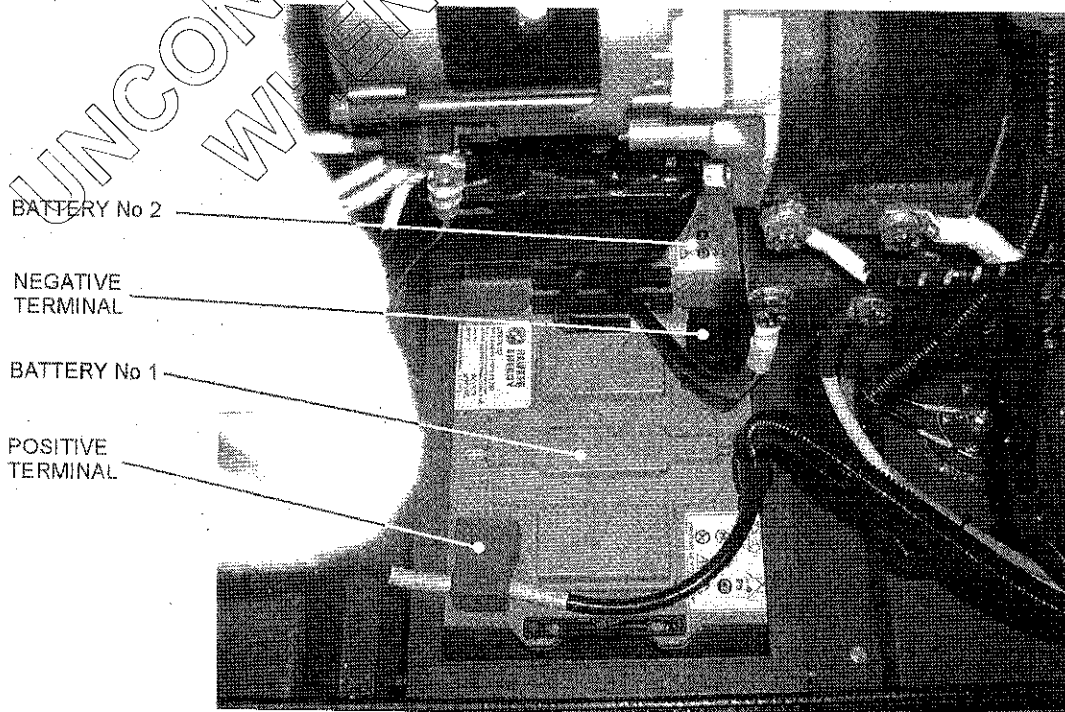
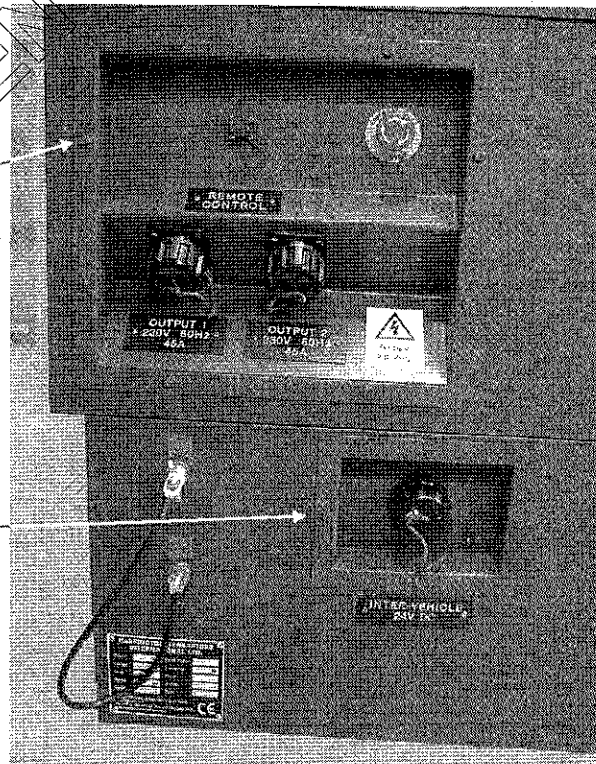

Fig 2 Battery terminals
Fig 4 Output pod and inter-vehicle connection pod
- (1) Remove the control pod as described in Para 3.
- (2) When the gland plate has been separated from the control panel, remove the conduit gland nut from conduit number 3 and conduit number 5 and withdraw the cables through the gland plate. These are the conduits to the main alternator and the engine respectively.
- (3) Remove the eight M6 setscrews (Fig 4) that secure the Output Pod to the canopy end panel.
- (4) Ease the Output Pod forward and lift it clear of the generator, complete with the NEMP/LEMP filter and conduits attached.
- (5) The Output Pod can be replaced complete with conduits. Alternatively, systematically remove the cover plates and swap the conduit and NEMP/LEMP filter from the outgoing pod to the incoming pod.
- (1) Unlatch and remove the lift-off canopy door.
- (2) Working through the door opening, lift the red terminal boot cover off the positive terminal on the nearest battery (see Fig 2).
- (3) Leave the positive battery terminal clamp in place and remove the lead marked 22BAT+ from the clamp.
- (4) Remove the lead marked 00BAT- that is bolted onto the side of the engine flywheel housing.
- (5) Remove the four M6 setscrews (Fig 4) that secure the Inter-vehicle Socket Pod to the canopy end panel.
- (6) Ease the pod out through the aperture and withdraw with the conduit attached.
- (7) The Inter-vehicle Socket Pod can be replaced complete with conduit.
- (8) Alternatively remove the cover plate and swap the conduit assembly from the outgoing pod to the incoming one.